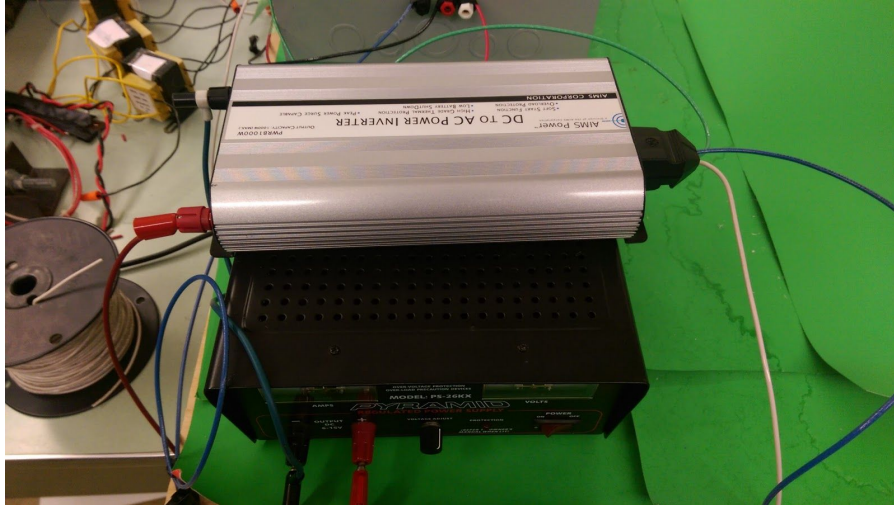

Figure 1- DC Power Supply and Inverter to simulate solar power.
- Small DC power supply accompanied by a DC-AC inverter to convert the current from DC to AC. (We can use a DC power supply and an inverter from Dr. Ken Sauer's Village Project- see **Figure 1** below). **(\$0)**